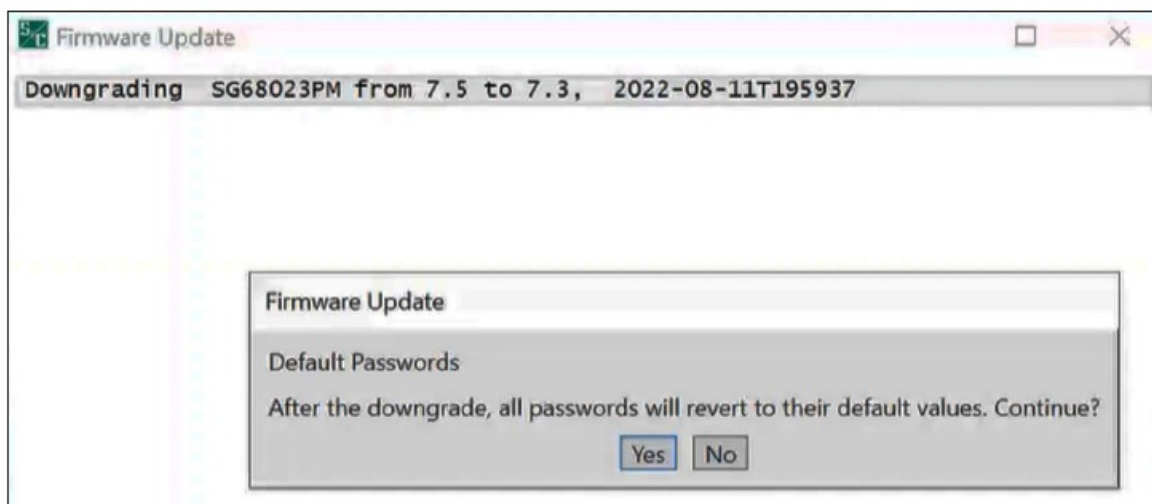

Figure 36. The Default Passwords downgrade message.
- **STEP 18.** When downgrading from a software version of 7.3.100 or later to a software release earlier than 7.3.100: A message appears about the passwords being reverted to defaults during the downgrade process. Click on the Yes button to proceed with the downgrade. Selecting “No” will stop the downgrade process. See Figure 36.